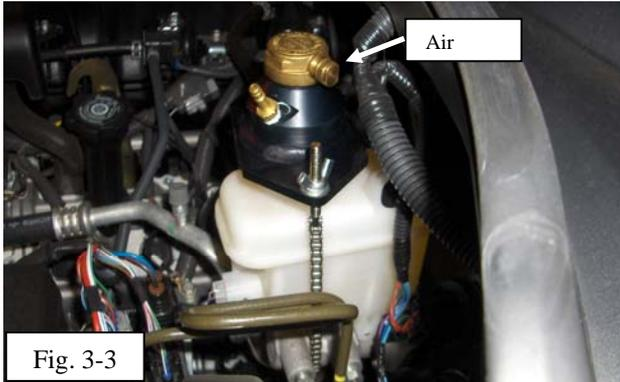

Fig. 3-3
- (1) Turn valve clockwise until closed (Fig. 3-3).